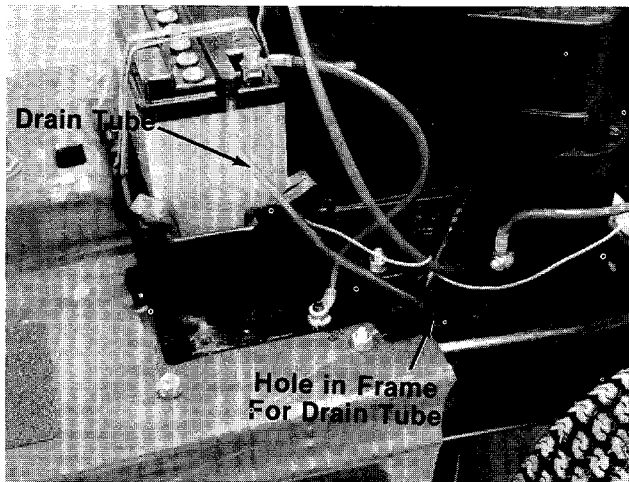

FIGURE 17.
14. Feed the end of the battery drain tube into the hole provided in the frame, located in front of the starter on the engine. See figure 17.